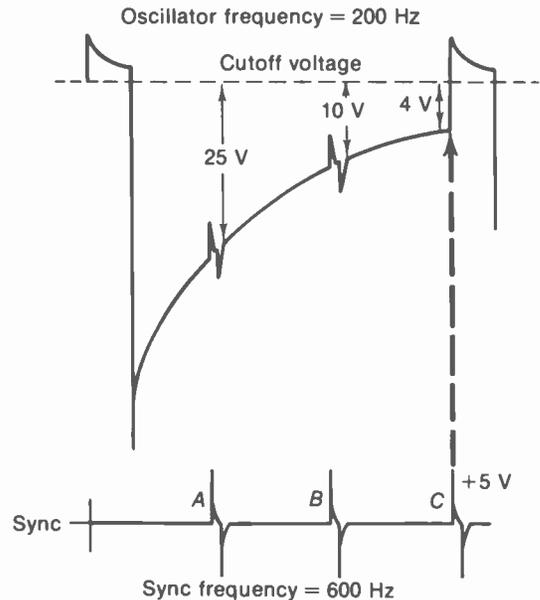

FIGURE 20-26 TRIGGER PULSES FORCING MV TO OPERATE AS FREQUENCY DIVIDER AT ONE-THIRD THE SYNC FREQUENCY. EVERY THIRD PULSE WILL TRIGGER THE MV.
Either the multivibrator or the blocking oscillator can be triggered at a submultiple of the sync frequency to act as a frequency divider. In Fig. 20-26, as an example, the input sync frequency of 600 Hz is divided by 3 to provide 200 Hz for the frequency of the MV output. The circuit is a divider, as the oscillator output frequency is an exact submultiple of the sync frequency input.
The sync voltage is coupled to the grid that needs positive pulses for triggering. For minimum sync voltage input, the free frequency of the oscillator is set slightly below the desired submultiple of the sync frequency. Then the oscillator is forced to lock in at the exact submultiple frequency because of the trigger pulses. Note that the third sync pulse labeled C in Fig. 20-26 has enough amplitude to trigger the oscillator from cutoff into conduction. Pulses A and B do not affect the oscillator because they do not have enough amplitude to raise the grid voltage above cutoff. The reason is that the free frequency slightly under 200 Hz has been set much lower than the sync frequency of 600 Hz. However, the third pulse C does trigger the oscillator into conduction. Then every third pulse triggers one oscillator cycle to produce output at one-third the sync frequency.
The voltages in Fig. 20-26 indicate how the frequency-division factor can be changed with more sync input. If the sync is increased to
10. In Fig. 20-26, if the free frequency is set at  $295\text{ Hz}$ , the oscillator frequency will lock in at \_\_\_\_\_ Hz.